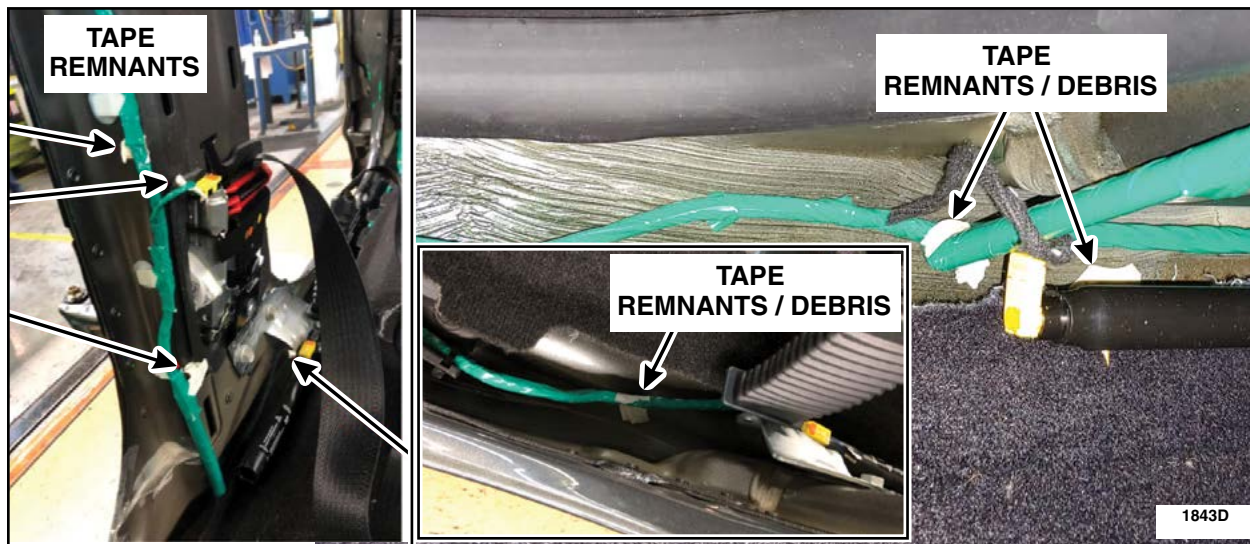

FIGURE 1
2. From the A-pillar backward to the C-pillar check vehicle metal floor, carpet and wire harness for tape remnants or other debris. Remove if present. See Figure 1.